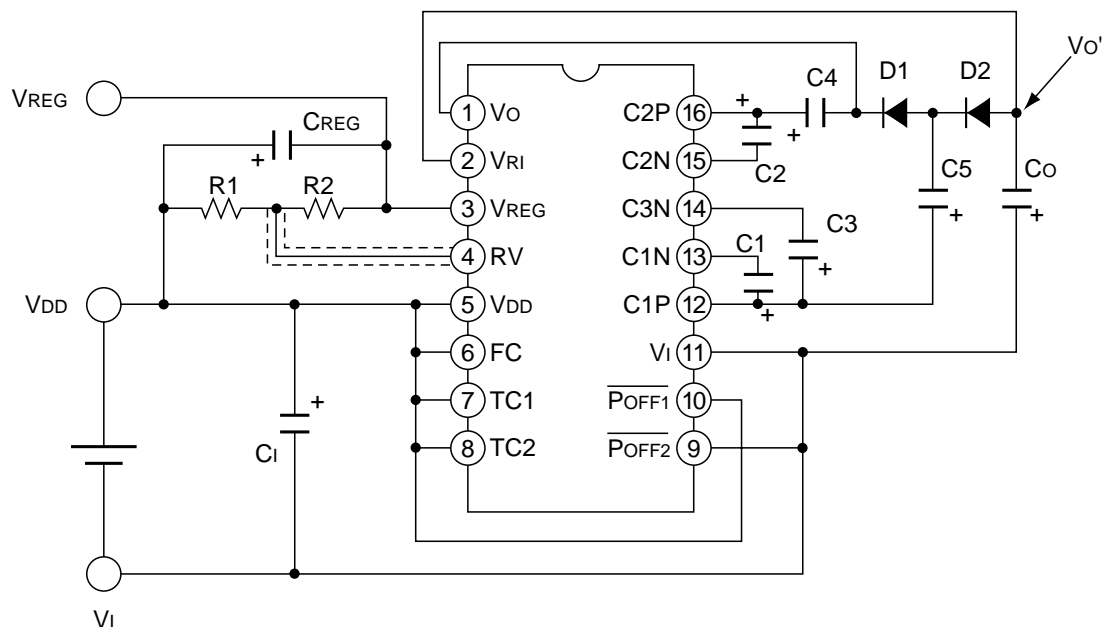
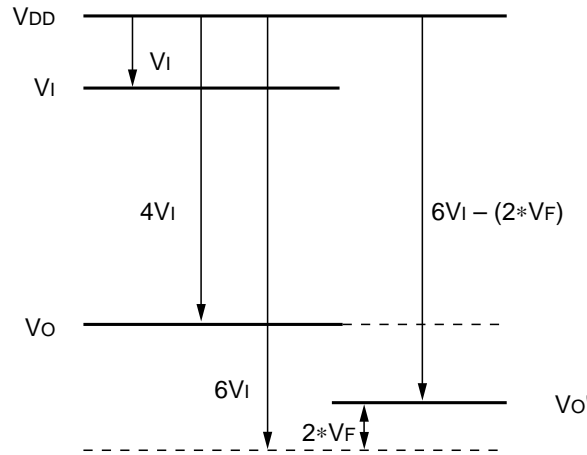

Figure 2.12 Wiring example for 6-time boosting using diodes
Figure 2.13 Potential relationship during 6-time boosting using diodes
Figure 2.12 gives a wiring example of 6-time booster and regulator that use two diodes. The wiring between V_O and V_{RI} must be minimal. Figure 2.13 provides the potential relationship.
- ◇ Setup conditions of Figure 2.12
- When diodes are used for voltage boosting, the characteristics of diodes directly affect on the voltage boosting characteristics. The forward voltage drop (V_F) of diodes can reduce the booster output voltage. As the example of Figure 2.12 uses two diodes, the drop of “ V_F ” voltage multiplied by two occurs as shown in Figure 2.13. The booster output voltage is expressed by equation (5).
To satisfy the input and output current ratings, limit the total current does not exceed the rated input current. The total current means the total boost time multiplied by the output load current. The example of Figure 2.12 has the maximum load current of 13.3 mA (= 80 mA divided by 6).
To satisfy the input and output voltage ratings, take care not to violate the electric potential relationship of higher time boosting using diodes. The example of Figure 2.12 must have the “ V_I ” that can satisfy the input voltage conditions during 6-time boosting (see Table 2.3).